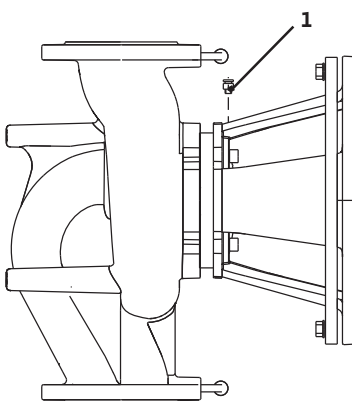

Fig. 41: Ventilation valve
- Vent the pumps by loosening the air vent valves (Fig. 41, Item 1). Any dry running would destroy the mechanical seal of the pump. The differential pressure sensor must not be vented (risk of destruction).